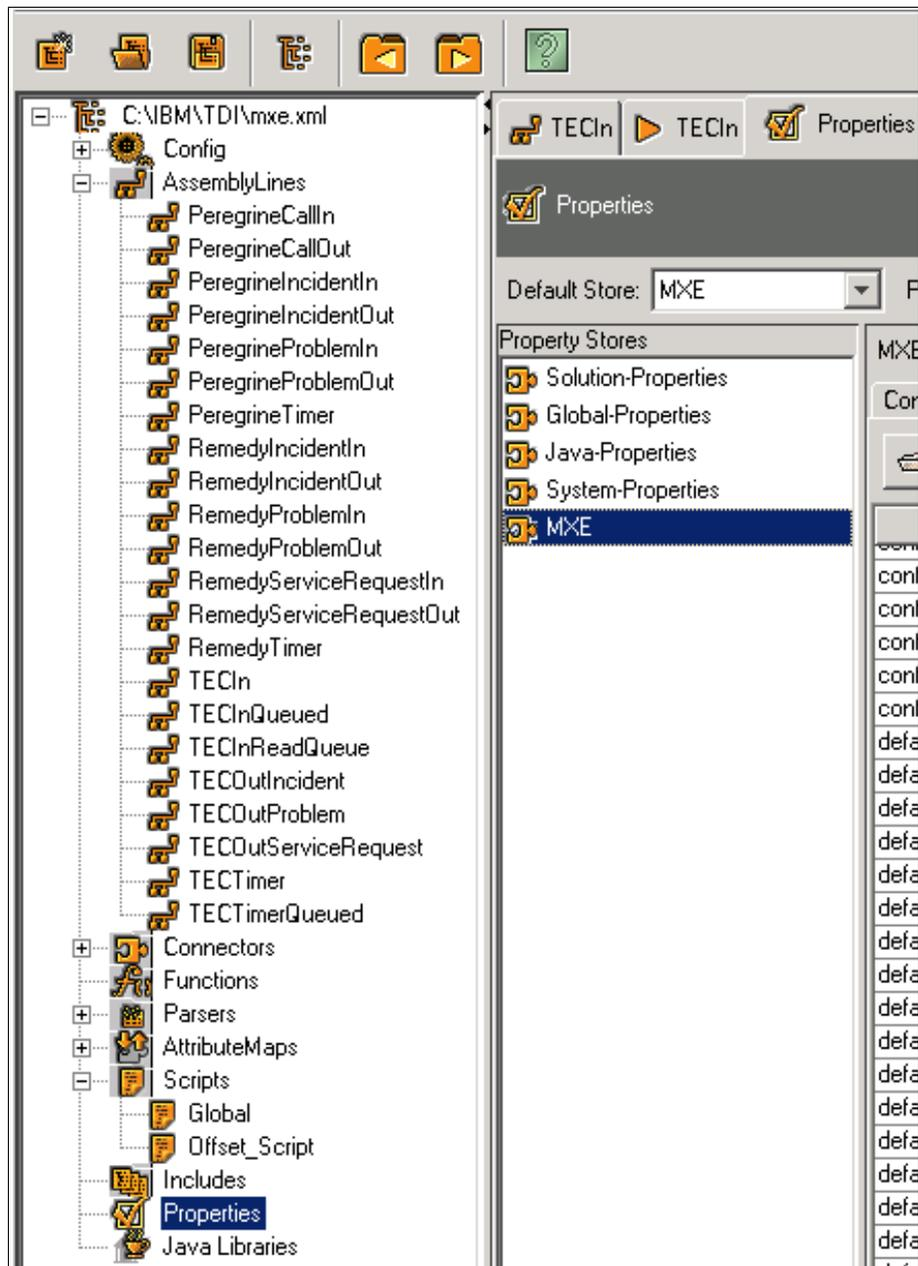

Figure 3-6 Configuration required to establish the communication (1 of 2)
1. To establish communication between TDI and Tivoli SRM, the following configuration in the TDI (described in Figure 3-6 on page 125 and Figure 3-7 on page 126) is required.